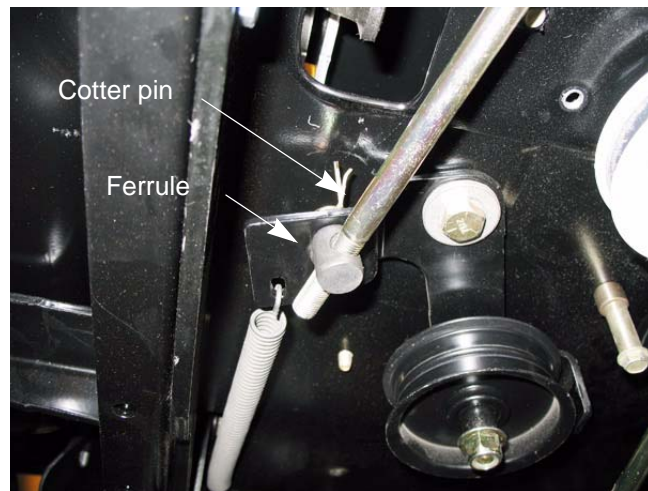

Figure 5A.7
3. Remove the cotter pin and washer from the ferrule. See Figure 5A.7.